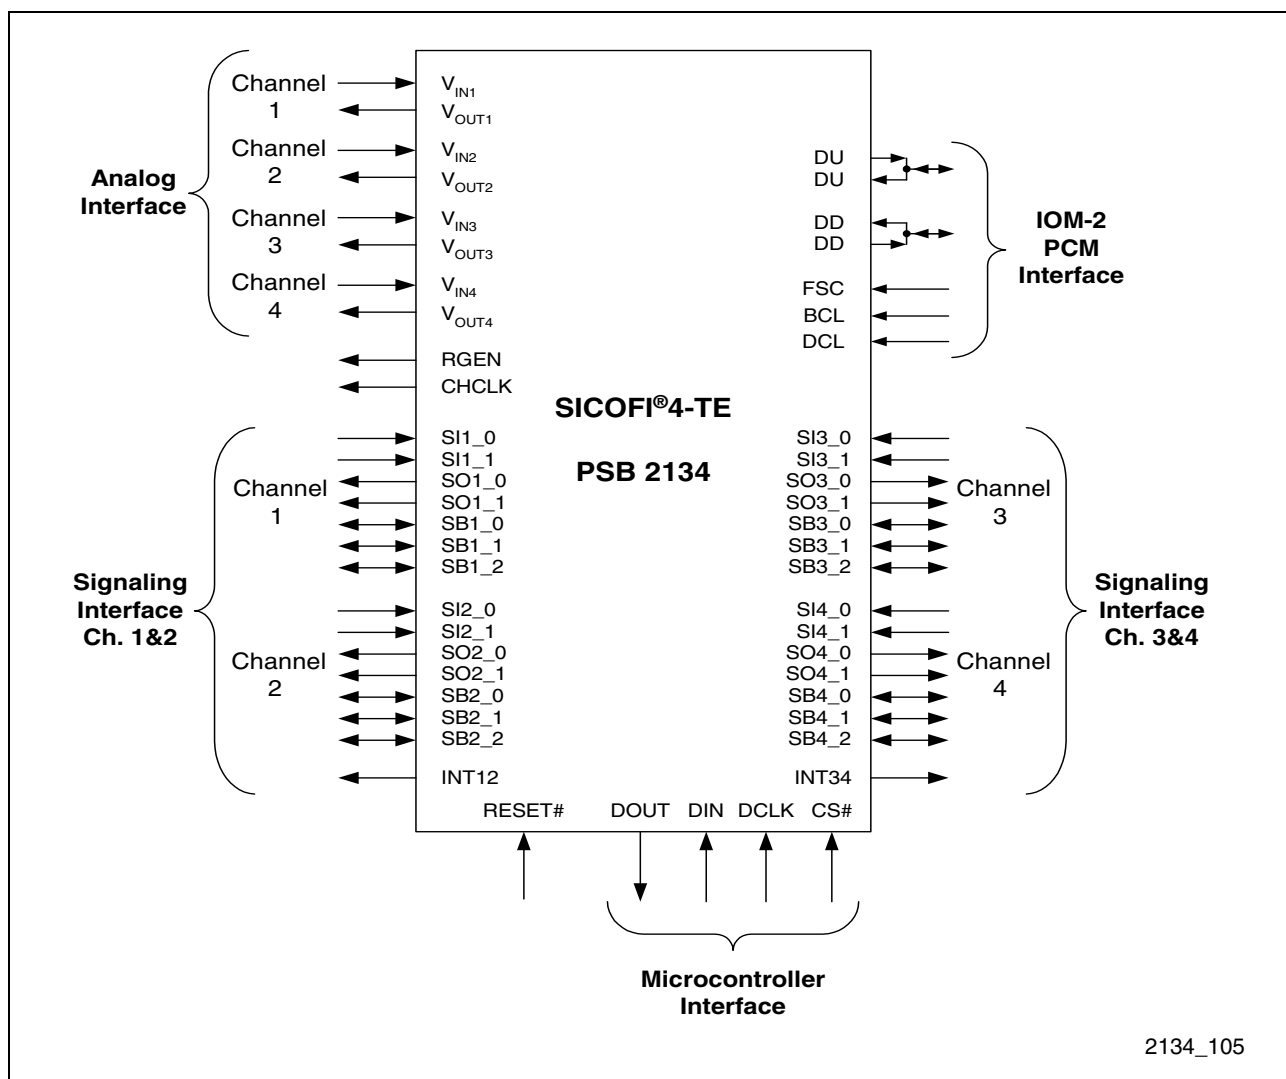

Figure 2 SICOFI®4-TE Logic Symbol
Figure 2 depicts the signals and interfaces available in the SICOFI®4-TE. The Analog Interface in the SICOFI®4-TE has one input pin and one output pin per channel. The Signaling Interface has a total of 28 pins: each channel has two digital inputs, two digital outputs, and three configurable digital inputs/outputs. Two interrupt outputs are available to indicate changes on the signaling inputs. The IOM-2 PCM Interface has one input and one output connected to Data Upstream (DU) and one input and one output connected to Data Downstream (DD). Voice transmission and reception can be assigned to either of the IOM-2 signals, DU or DD, through register programming. Two clock inputs, for frame and bit synchronization, also apply to the IOM-2 PCM Interface. The Serial Microcontroller Interface consists of four signals: one serial input, one serial output, clock supply, and chip select. The SICOFI®4-TE also includes one general reset pin, one ringing signal output, and one universal, programmable clock output. For details, see **Chapter 4** "Interface Description" on page 13.